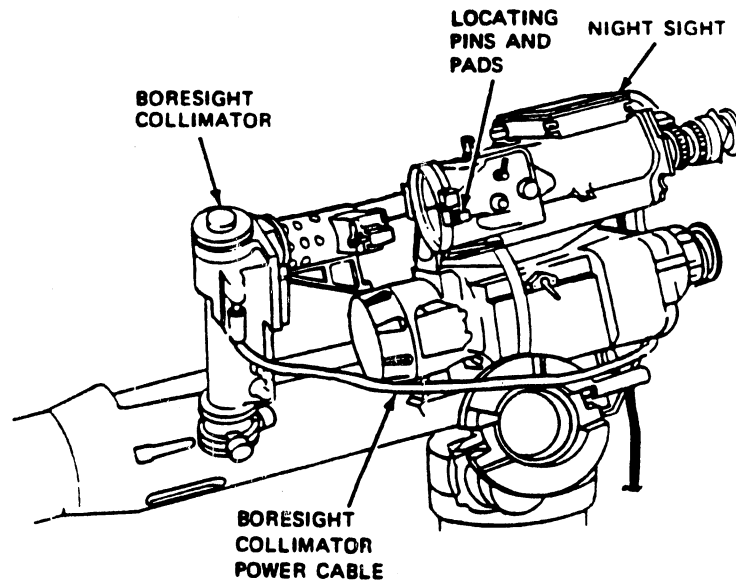

Fig 3-24. Installing boresight collimator.
- d. Connect the other end of the boresight collimator power cable to the night sight connector J4 (fig 3-24).
Do the day sight tracker crosshairs and boresight collimator reticle appear (fig 3-24)?